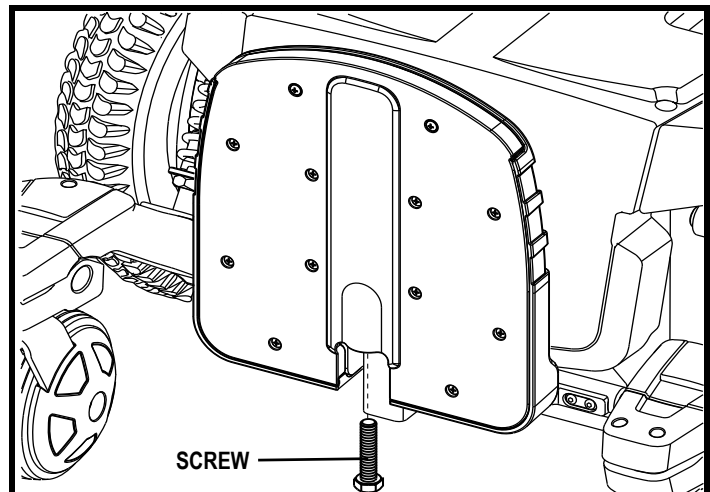

Figure 22. Underside of Foot Platform
1. Flip up the foot platform and locate the screw. See figure 22.